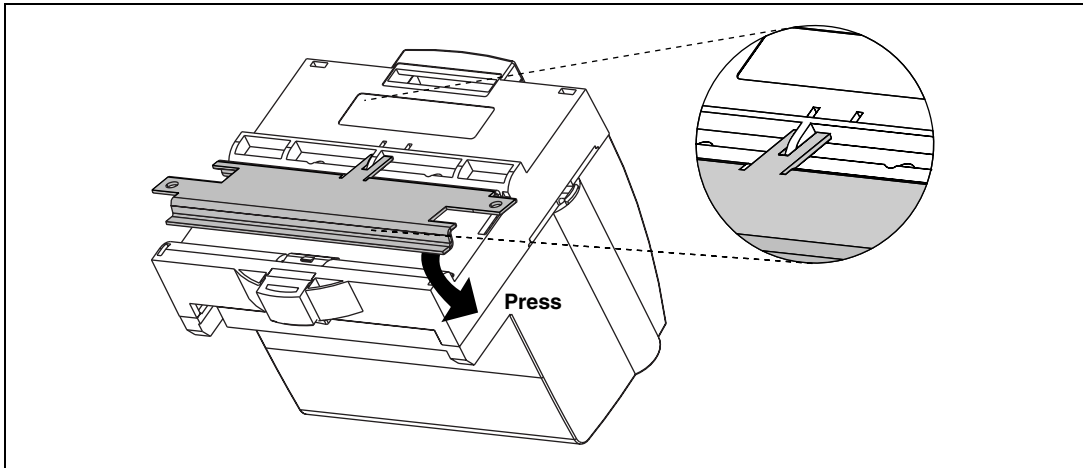

Figure 2-4. Installing the Network Panel Mount Accessory
2. Snap the panel mount accessory onto the module, as shown in Figure 2-4.